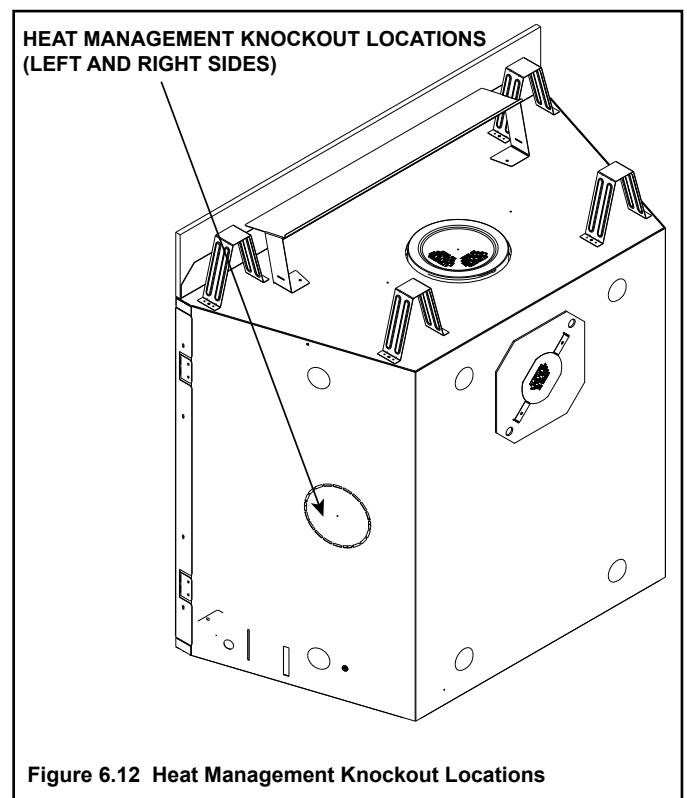

Figure 6.12 Heat Management Knockout Locations
- Locate the heat management ports on the left and right sides of the appliance. Either one or two Heat-Zone® -Gas Kits may be installed. Remove the knock-out from the fireplace and discard it. See Figure 6.12.